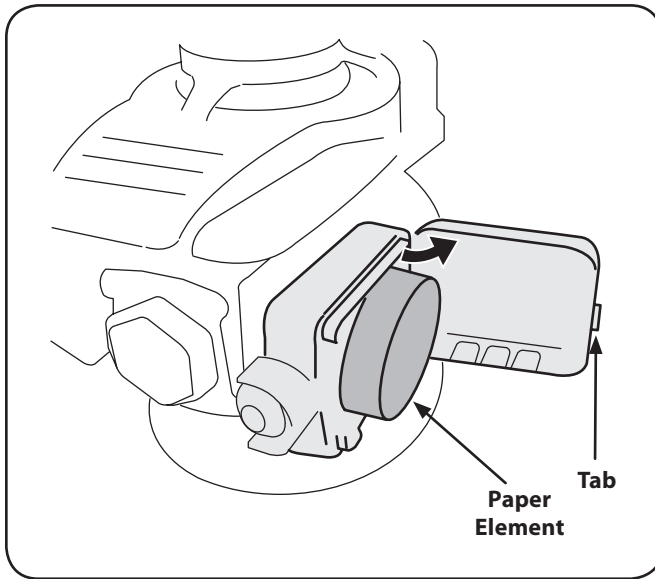

Figure 6-3
1. Remove the air filter cover by squeezing the front and back sides to release the tab at the front of the air filter cover. See Figure 6-3. Clean foam element or replace when damaged.